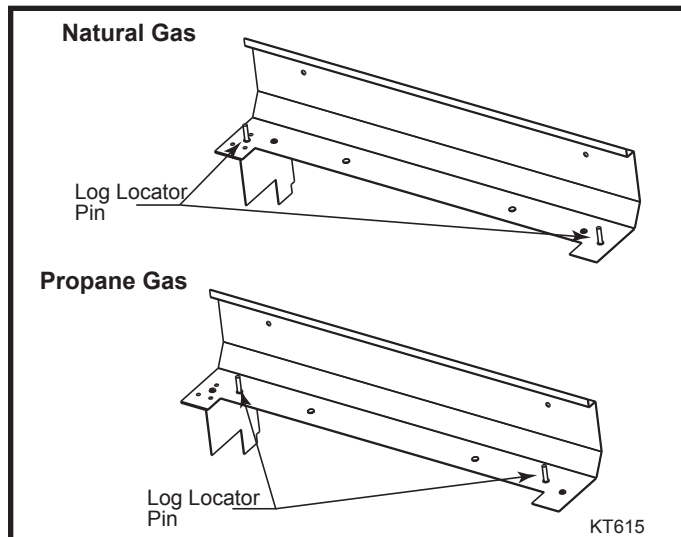

Fig. 53 Move log locator pins to new locations on rear log support.
6. **For Model 36LDVR ONLY:** Remove the rear log support and relocate the two (2) screws that locate the rear log as shown in Figure 53.